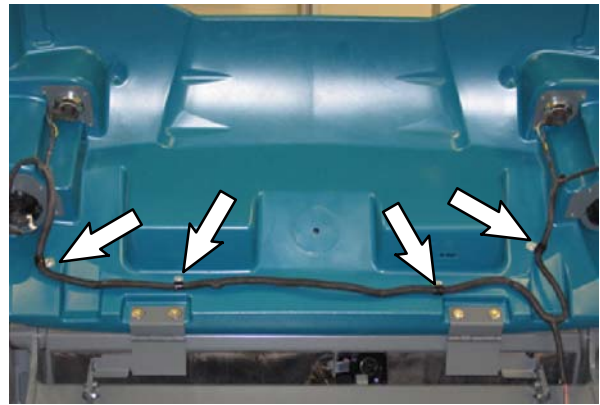

FIG. 19
26. Use four pan screws (3), four flat washers (4), and four p-clamps (84) to secure the light harness onto the hopper cover (1). (Fig. 19)